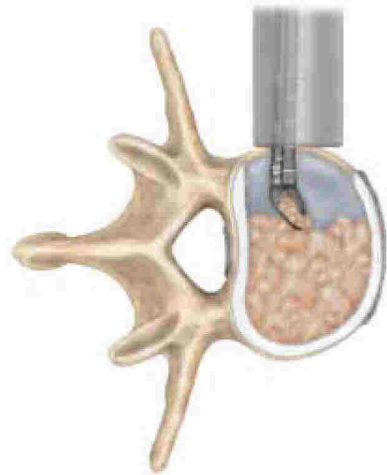

Figure 29
**Step 5** A thorough discectomy is then performed using pituitaries and other disc preparation instruments (Figure 29).